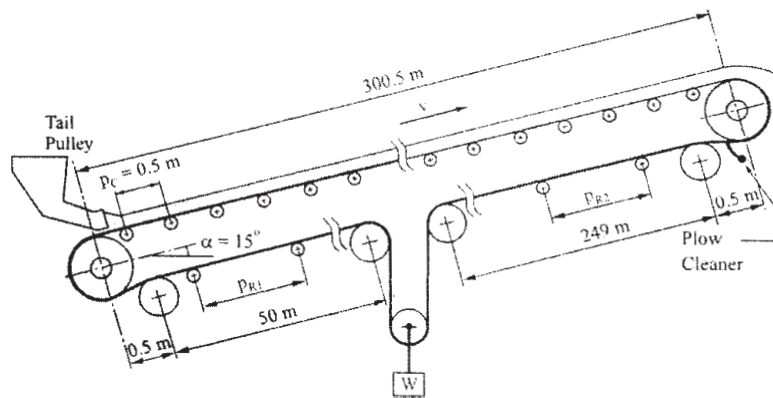

Fig.1
- Q7) An inclined conveyor is used in transporting a mineral ore. The details of the conveyor are shown in Fig. 1. Use the following data :